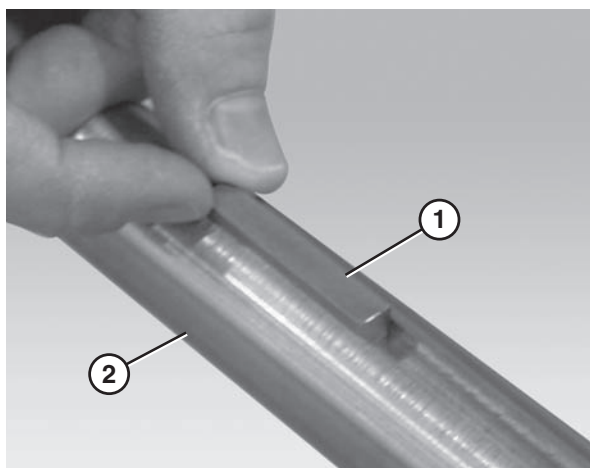

Figure 17
2. Insert the drive spindle key (**Figure 17, item 1**) into the drive spindle keyway (**Figure 17, item 2**).